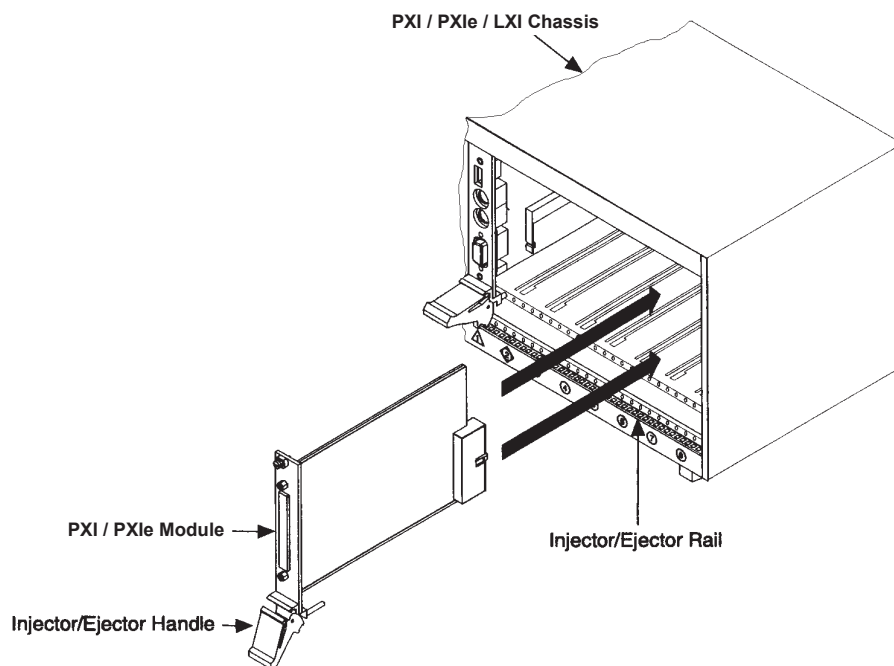

Figure 3.1 - Installing the Module into a PXI/PXIe/cPCI/LXI Chassis
5. Hold the handle whilst slowly sliding the module into the card guides until the handle catches on the injector/ejector rail (refer to Figure 3.1).